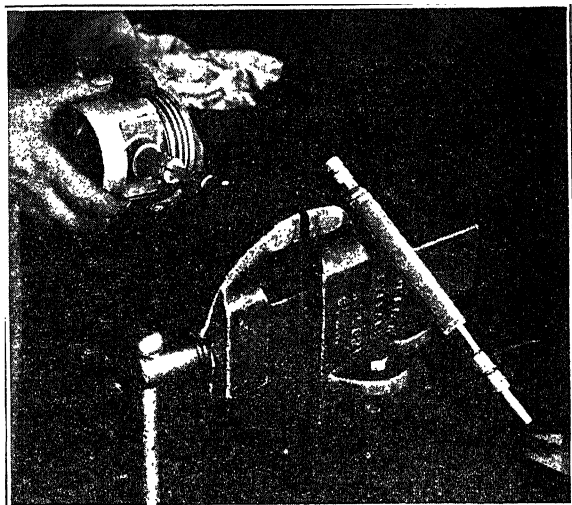

Fig. 29. Honing Piston for New Piston Pin
**Fitting Piston Pins by Honing.** Fig. 29 illustrates a workman honing a piston for a new piston pin. The hone is a specially designed device carrying two abrasive covered units resembling emery paper. These are held in metal members, the latter held by the hone center and arranged to be expanded by means of a micrometer adjustment. They may be used as shown, or if more metal is to be removed, they may be held in the drill press or bit brace chuck, either of these two methods speeding up the work. Hones are available in several grit numbers, fine and coarse. Hone sizes vary much after the fashion of reamer sizes, although three sizes ordinarily cover the full range of piston pin work. The same device is used for honing spring, front axle and other bushings on the car.